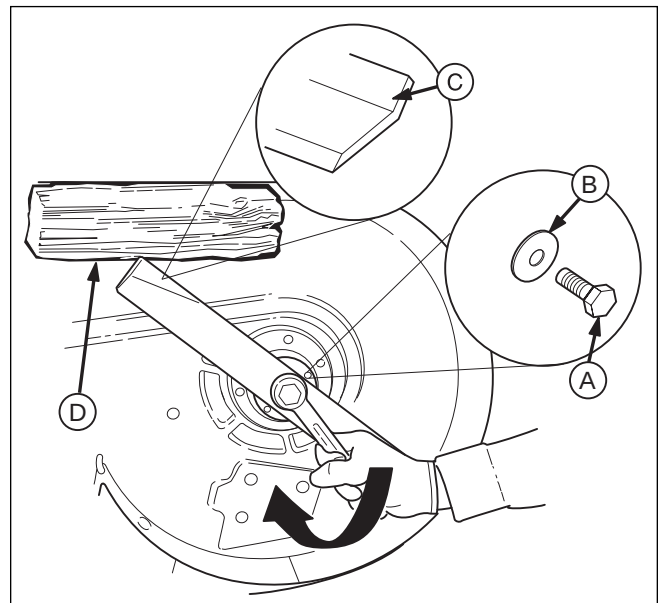

Figure 29. Tightening the Mower Blade for Installation
1. Reinstall each mower blade with the air lifts pointing up towards the mower deck as shown in Figure 29. Wedge a wooden block between the mower blade and the mower deck housing, and secure the mower blade with the mower blade mounting bolt, hex washer and spring washer (A, B & E, Figure 29) and torque to 45-55 ft. lbs. (61-75 Nm).